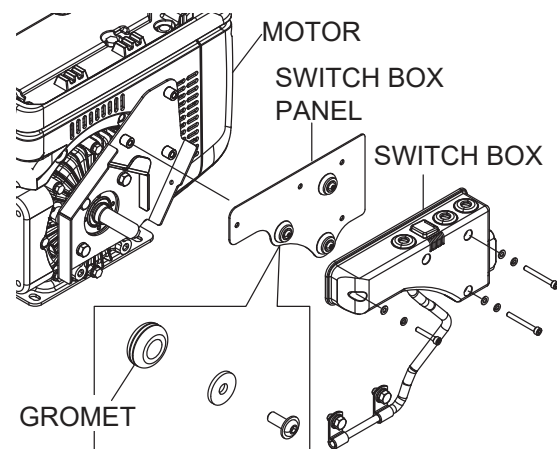

Figure 24. Checking Switch Box
3. To tighten, remove the switch box, then replace the grommet installed to switch box panel to new one (Figure 24).